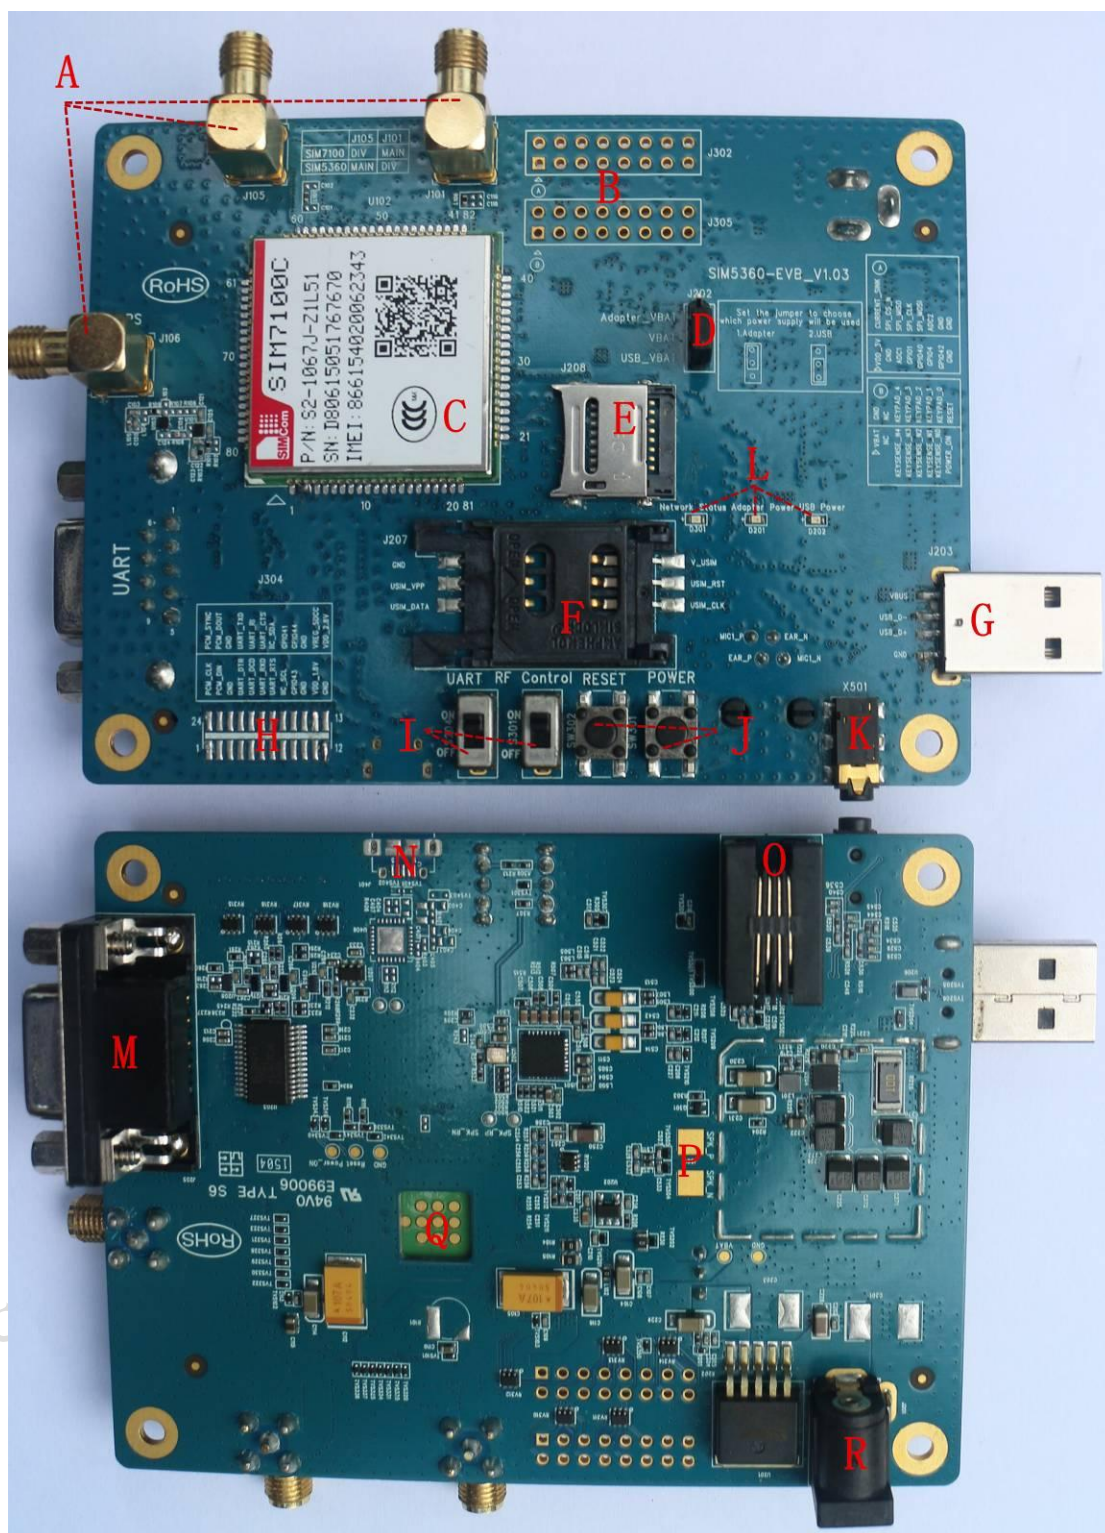

Figure 1: EVB View
1) Please refer Figure 1. The Pin 1 and Pin 2 of J501 are the SPK_M and SPK_P.